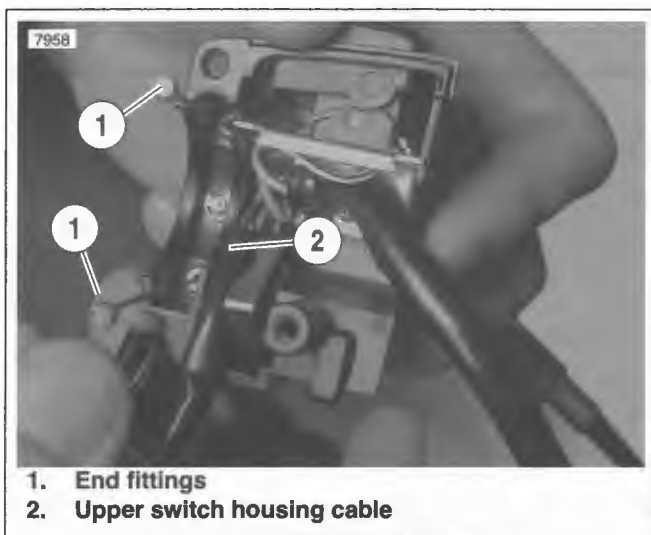

Figure 8-97. Route Cable to Upper Switch Housing
3. See Figure 8-97. Route the cable (2) to the upper switch housing as shown.